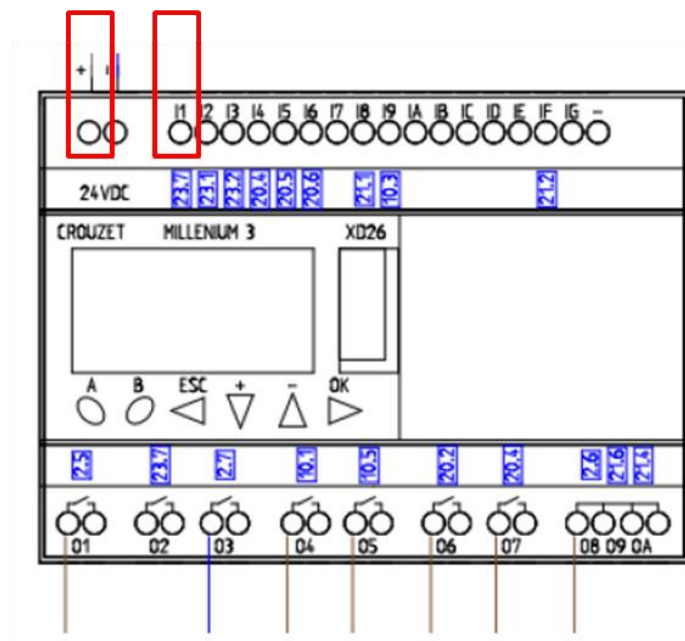

Figure 24: Connection of external alarm input at Crouzet controller input 24VDC+ and Input 1.
- Connect extern alarm cable at following inputs at Crouzet controller: **24VDC+ and I1**. Please see Figure 24..